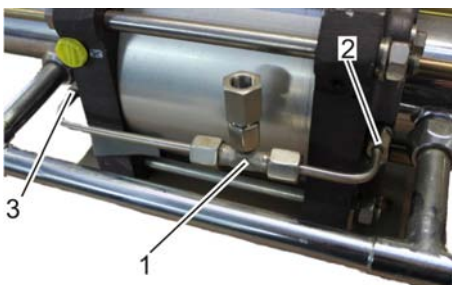

Fig. 16: Piping for leakage line
2. ➤ Connect leakage piping (Fig. 16/1) to leakage connections Z1 (Fig. 16/2) and Z3 (Fig. 16/3).